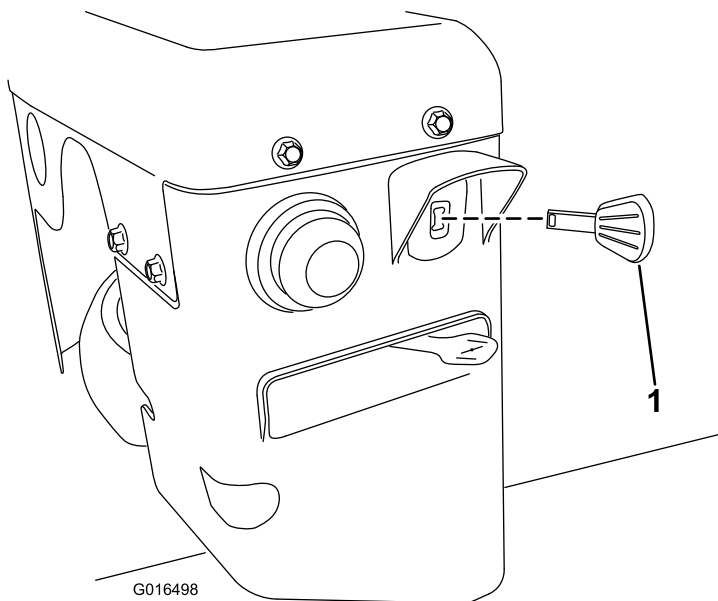

Figure 27
- 3. Insert the ignition key all the way in (Figure 27).